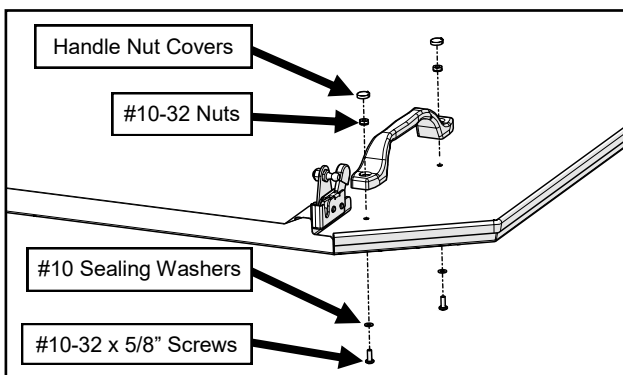

Fig. 1.5 (Roof Handle)
- 1.5 Install a handle to the left side of the roof as shown in Figure 1.5. *The headliner is hidden in Figure 1.5 for clarity.*